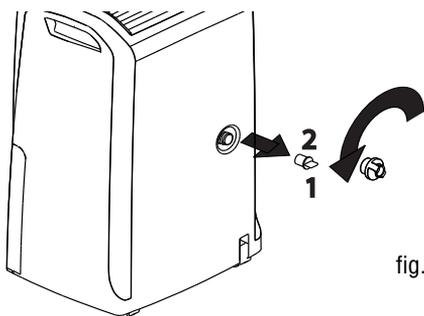

fig. 2
- 1) Remove the protective cap **1** by turning it anti-clockwise then remove the rubber cap **2** from the spout (fig. 2).